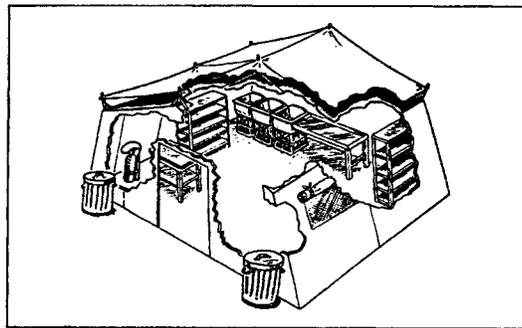

Figure 3-4. Sanitation Center
- b. Use thermometers to check temperature of wash and rinse water in pot and pan wash line. See Figure 3-4.
- (1) First corrugated can contains hot, soapy water (110° to 120°F).
- (2) Second can contains clean, hot water (120° to 140°F or higher).
- (3) Third can contains clean boiling water (170°F or higher for 30 seconds).